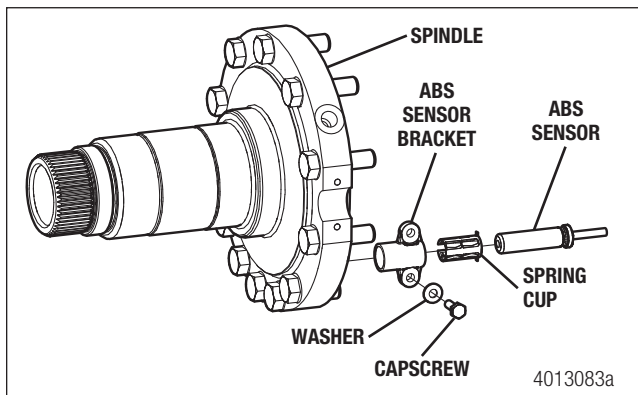

Figure 9.4
2. Remove the sensor from the inboard side of the knuckle using a twisting motion. Figure 9.4.
8. Install the ABS sensor bracket using capscrews with washers onto the knuckle/spindle assembly. Tighten to the torque listed in Section 17 Torque Specifications on page 63. Figure 9.4.